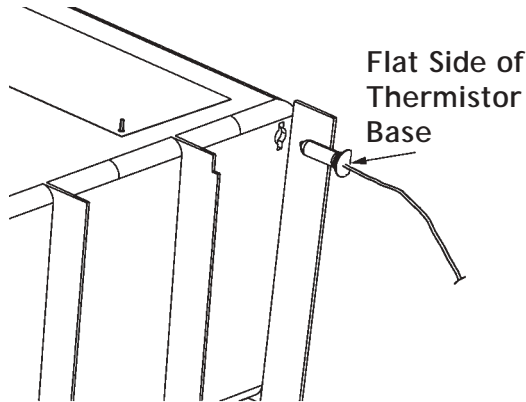

Figure 2-17
11. When placing the thermistor back into the inner enclosure, make sure it is in its proper orientation. (See Figure 2-17)